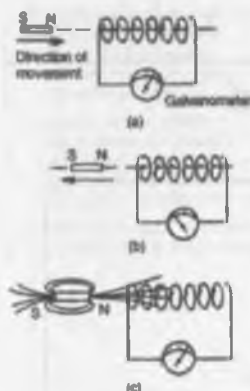

Figure 9.1
Figure 9.1 (a) shows a coil of wire connected to a centre-zero galvanometer, which is a sensitive ammeter with the zero-current position in the centre of the scale.
- (a) When the magnet is moved at constant speed towards the coil (Fig. 9.1(a)), a deflection is noted on the galvanometer showing that a current has been produced in the coil.
- (b) When the magnet is moved at the same speed as in (a) but away from the coil the same deflection is noted but is in the opposite direction (see Fig. 9.1(b)).
Figure 9.1(c) shows the magnetic field associated with the magnet. As the magnet is moved towards the coil, the magnetic flux of the magnet moves across, or cuts, the coil. It is the relative movement of the magnetic flux and the coil that causes an e.m.f. and thus current, to be induced in the coil. This effect is known as electromagnetic induction. The laws of electromagnetic induction stated in section 9.2 evolved from experiments such as those described above.